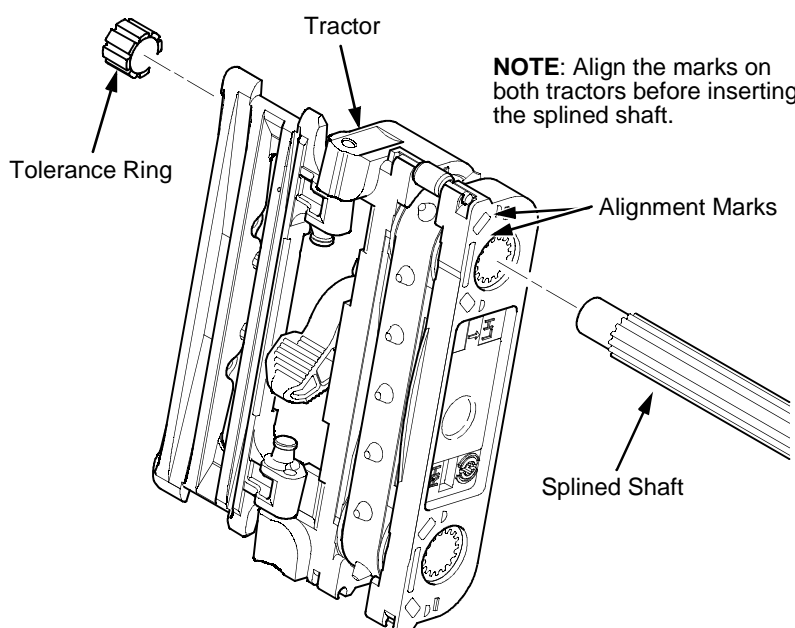

Figure 31. Splined Shaft and Tractor Installation
1. Open the doors on the left and right tractors. Position the tractor belts so the alignment marks are at the top on both tractors. (See Figure 31.)
2. Slide the splined shaft through the right side plate and tractors. Make sure the same spline passes the marked groove on each tractor. (See Figure 31.)
3. Install the tolerance ring on the left end of the splined shaft (page 240, item 5).
4. Insert the tolerance ring lead-in portion into the sealed ball bearing in the left tractor shaft plate (page 240, items 3, 5, and 6) while sliding the ball bearing into the right side plate. Push the splined shaft to the left until the flange on the ball bearing is in solid contact with right side plate. The splined shaft will protrude about 1/16 inch from the ball bearing.
5. Install the right tractor shaft plate and screw (page 240, items 7 and 8) by first sliding the upper “fingers” up and against the flange on the ball bearing, then sliding the rectangular cutout over the support shaft end, then snapping the U-shaped “spring” behind the tab on the right side plate.
8. Install the paper supports on the splined and support shafts. (See page 240, item 4.)